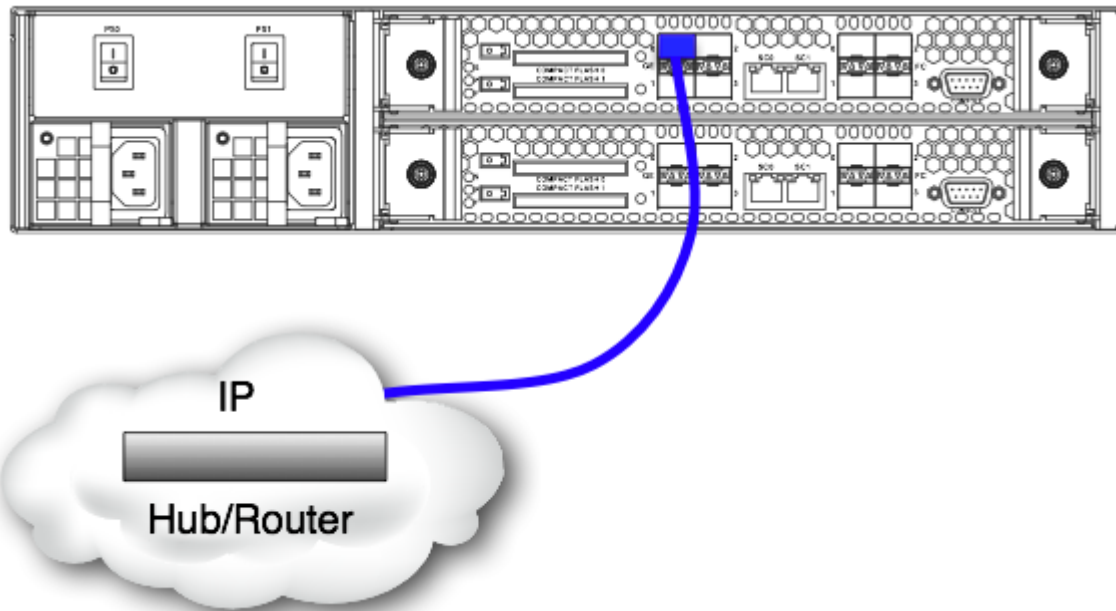

Figure 6-1 Connecting the ONStor Cougar 6000 Series NAS Gateway to the IP Network
Step 1: With one or more Gigabit Ethernet cables, connect the File Processing (FP) module, to a device in an IP network, as shown in Figure 6-1.